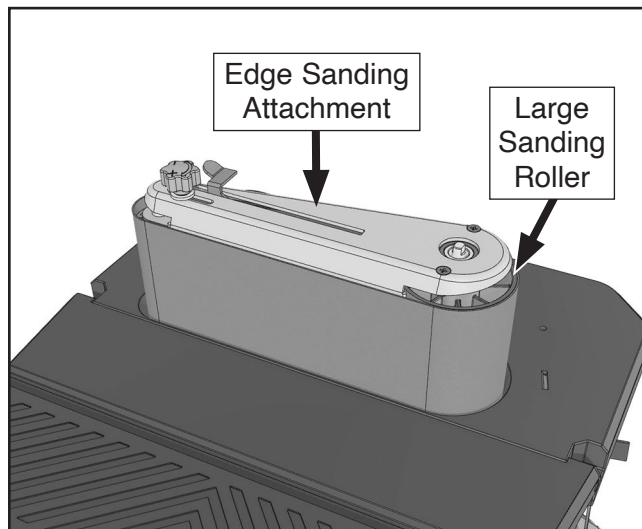
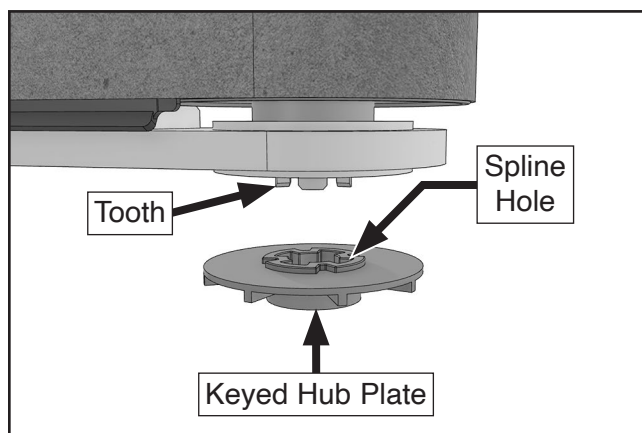

Figure 23. Edge sanding attachment installed in sander body.
Figure 24. Edge sanding attachment teeth aligned with spline holes in keyed hub plate (table removed for clarity).
4. Install edge-sanding attachment in sander body, as shown in **Figure 23**, and rotate large sanding roller until teeth align with spline holes in keyed hub plate (see **Figure 24**).